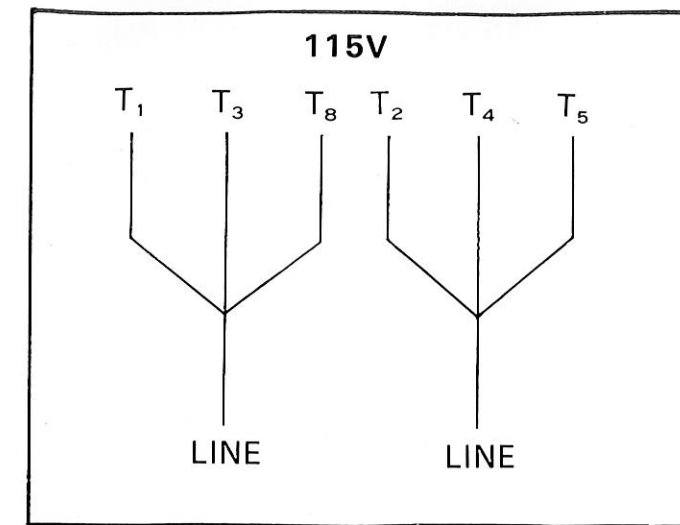

Fig 17
2. This drill press is supplied with six motor leads that are connected for 115 Volts, as shown in Fig. 17. Reconnect these six motor leads for 230 Volt operation, as shown in Fig. 18.